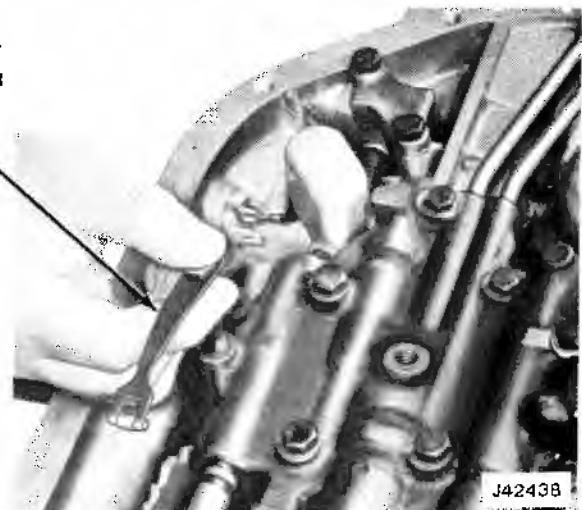
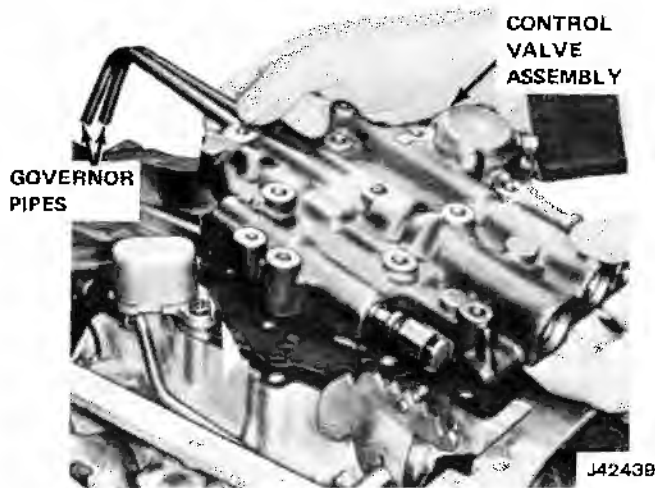

Fig. 7-8 Removing or Installing Detent Roller Assembly and Spring
Fig. 7-9 Removing Control Valve Assembly and Governor Pipes
(1) Remove attaching screws of control valve body and detent roller spring assembly from transmission case as shown in fig. 7-8.
(2) Disconnect solenoid lead from connector terminal.
(3) Remove control valve body assembly and governor pipes from transmission case (fig. 7-9).